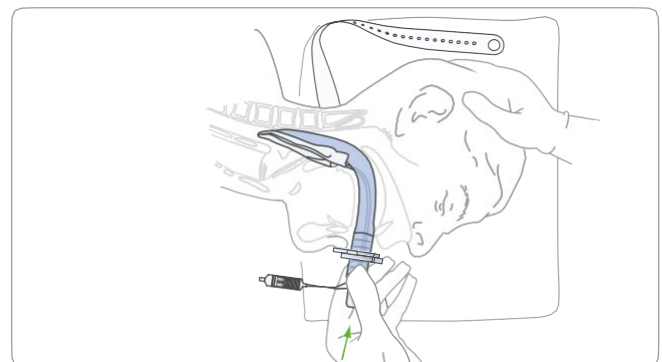

Figure 12. Advance the device into the hypopharynx until resistance is felt
11. Slight resistance should be felt when the distal end of the device meets the upper oesophageal sphincter. The device is now fully inserted as shown in **Figure 12**.